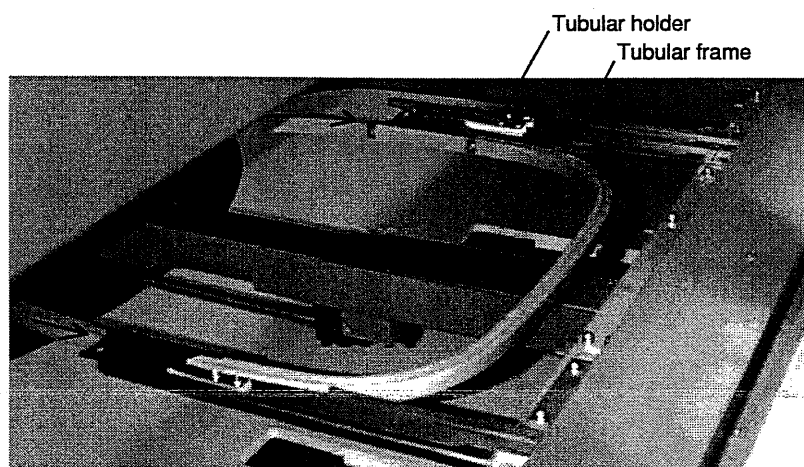

Fig. 2
- 4 Place each of tubular frame in tubular frame holder as shown in Fig. 2 and confirm that there is no malfunction.